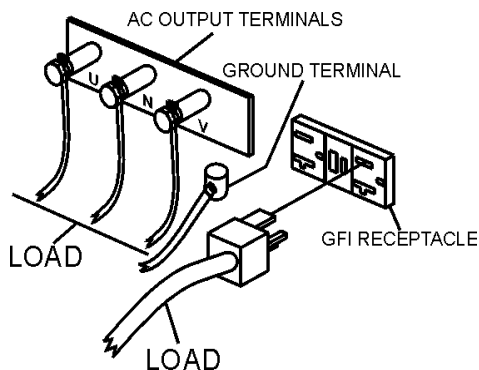

Figure 20. UNV Terminal Lugs (Load)
These receptacles will **ONLY** function when commercial power has been supplied to them (Figure 20). To apply commercial power to these receptacles, a power cord of adequate size will be required.
2. Once it is determined if commercial power is required, connect the load to the UNV terminals as shown in Figure 20. These terminals can be found on the output terminal panel, see page 36 Figure 12. To gain access to the output terminals lift the UNV cover. Make sure to tighten terminal nuts securely to prevent load wires from slipping out.
6. Remove the load from the UNV terminal strip (Figure 20).